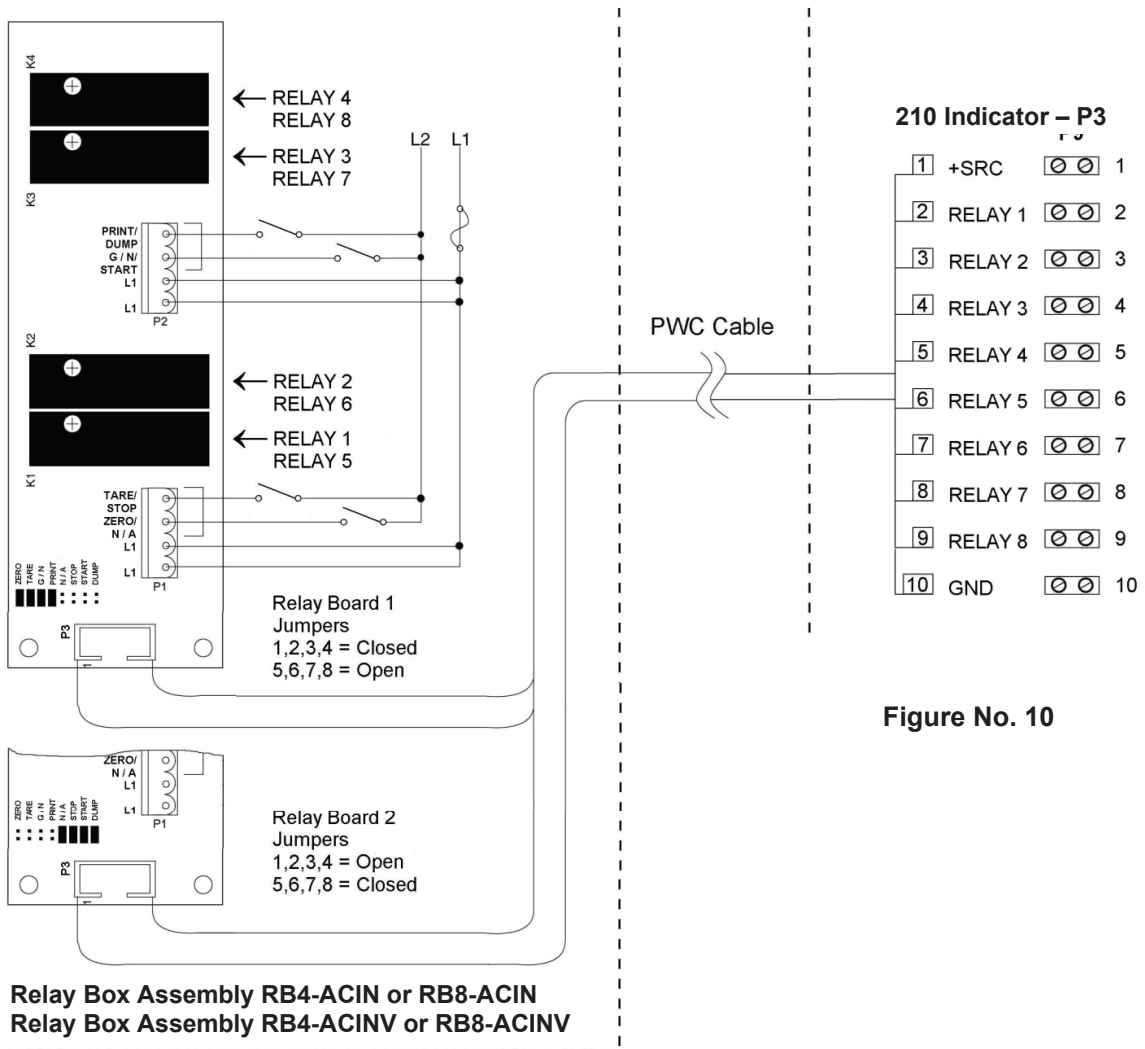
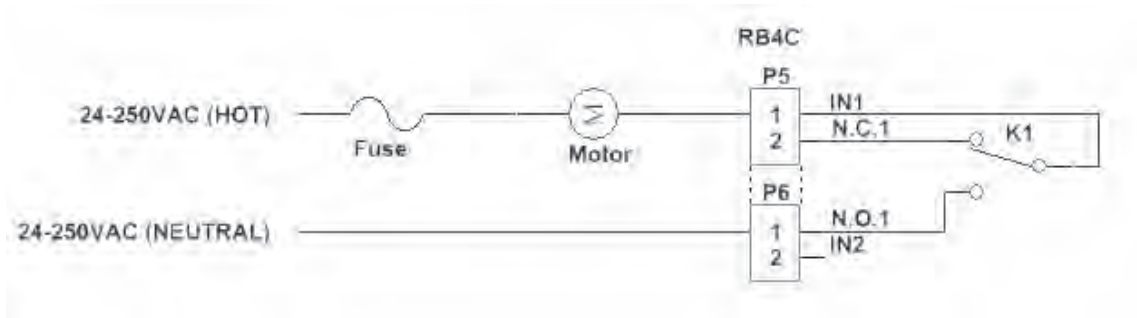
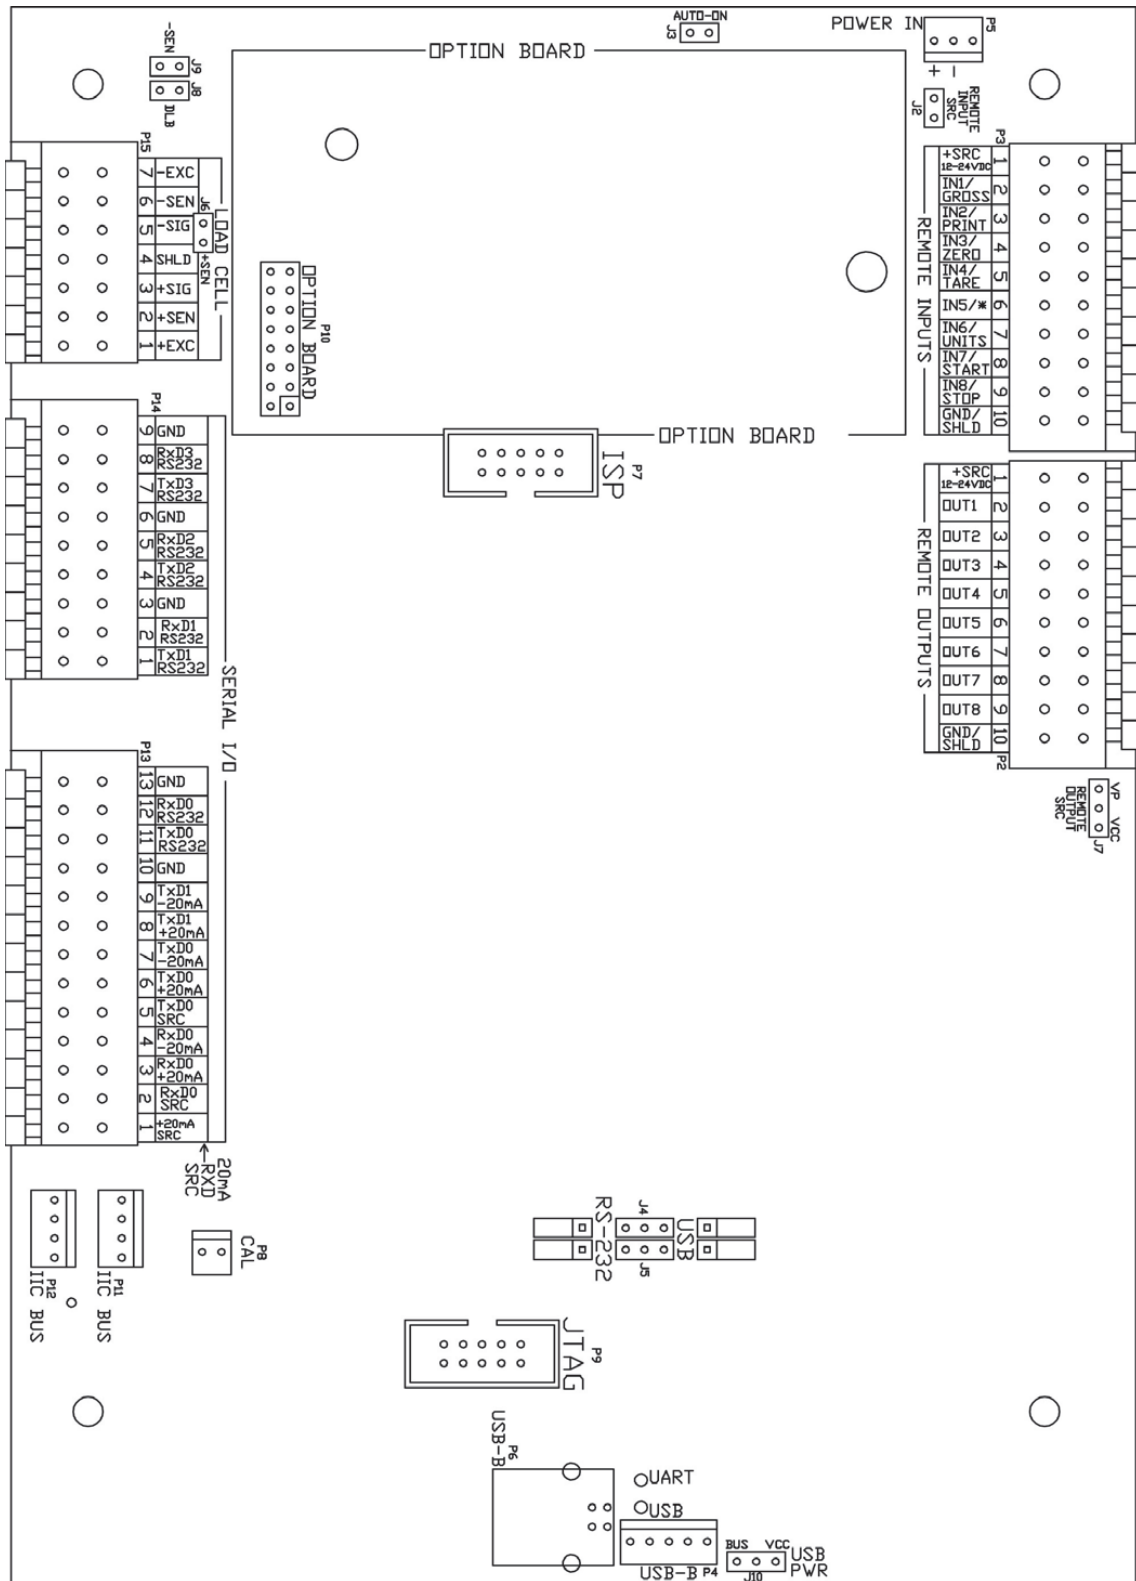

Figure No. 10
Figure No. 13
Figure No. 15
7. Plug the USB cable connector onto the USB-B, P4 header, referring to Figure No. 15 for the location of P4. Tighten the gland cable nut on the USB cable.
4. Plug the USB cable into the USB-B connector P6. See Figure No. 15 for the location of P6.
Refer to Figure No. 10 for the AC Input Relay board, Figure No. 11 for the AC Output Relay board, Figure No. 13 for the RB4C Relay board, and Figure No. 15 for the Main PCB.
Included with the I/O are 4 programmable inputs that may be used to remotely (up to 100 feet) initiate various functions within the indicator. These inputs are accessed via a terminal block (P3) on the back of the PC board (see Figure No. 15). The 8 inputs are defined as follows:
The AC Input Relay Board(s) are mounted in an external junction box for use with the 210 Indicator. The RB4-ACIN (115 VAC) or RB4-ACINV (230 VAC) contains one board and supports 4 inputs (jumper selectable). The RB8-ACIN (115 VAC) or RB8-ACINV (230 VAC) contains two boards and supports eight inputs that are jumper selectable. The relay board used in the 115 VAC versions is Cardinal p/n 8200-C324-0A. The 230 VAC version uses relay board Cardinal p/n 8200-C324-1A. Connect the devices as shown in Figure No. 10.
The Remote Output SRC jumper J7, when connected, allows the 210 indicator to supply (source) VP (15VDC) or VCC (5vdc) to a solid-state relay or other loads of 200 ohms or greater. The positive connection from the relays must be connected to the PWC connector pins and the negative wire from the relays to the GND pin. See Figure No. 15 for the jumper and REMOTE OUTPUTS connector location.
6. Connect each of the wires to the REMOTE OUTPUTS terminal block (P10) referring to Figure No. 15 for terminal block locations.